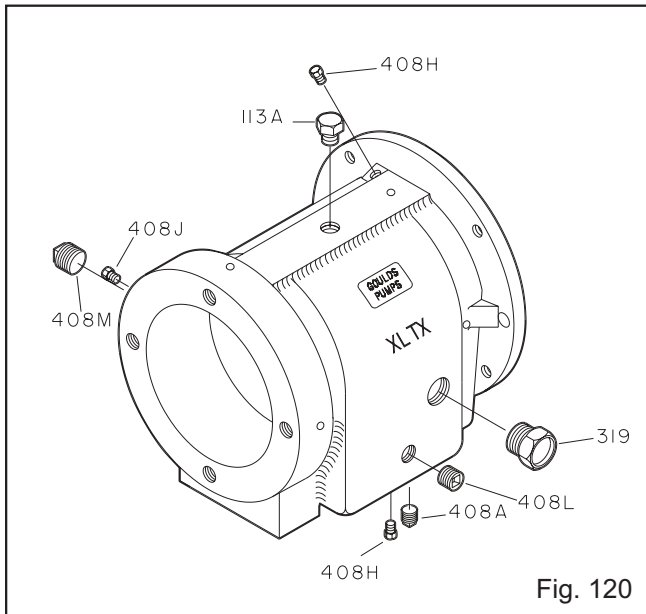

Fig. 120
1. Install oil fill plug (113A), oil drain plug (408A), sight glass (319), sight oiler plug (408J), four oil mist connection plugs (408H), or grease fittings (193) and grease relief plugs (113), and oil cooler inlet and outlet plugs or oil cooler (408L, 408M) in bearing frame (228A) (Fig. 120).